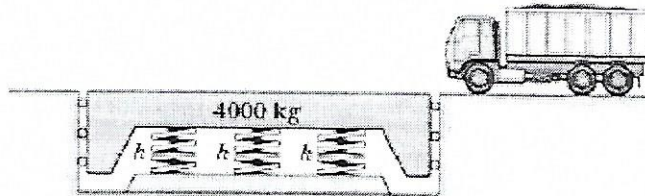

Figure Q2: Spring Support System
- During the design of the spring-support system, Figure Q2, for the 4000kg weighing platform at Kafue Weigh Bridge, it was decided that the frequency of free vertical vibration in the loaded condition with a 40Mg truck shall not exceed 1 cycle per second.